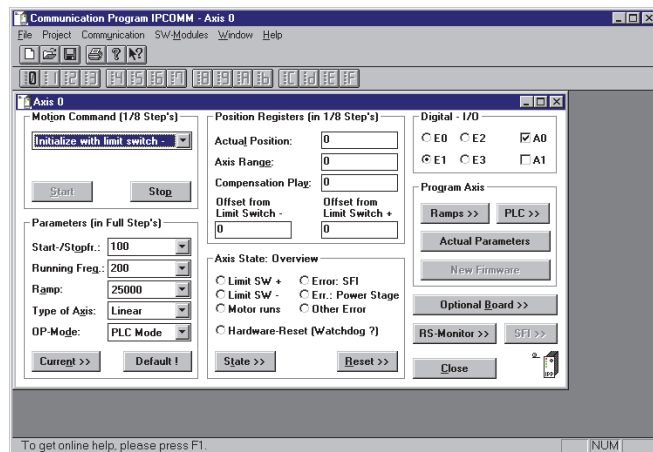

Fig. 10 Basic window
- ☐ Errors, program version and other information are indicated in *Status* window, Fig. 10.